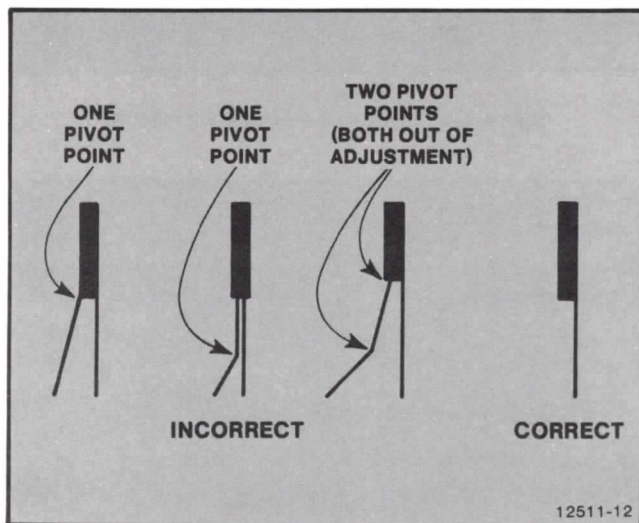

Figure 4-13. X and Y Axis Frequency Compensation Adjustments.
- b. ADJUST — R51 (LA Short) and R150 (LA Long) on the Deflection board so that only one line can be seen. Refer to Figure 4-13.
- d. ADJUST — R69 (SA Short) and R167 (SA Long) on the Deflection board so that only one line can be seen. Refer to Figure 4-13.